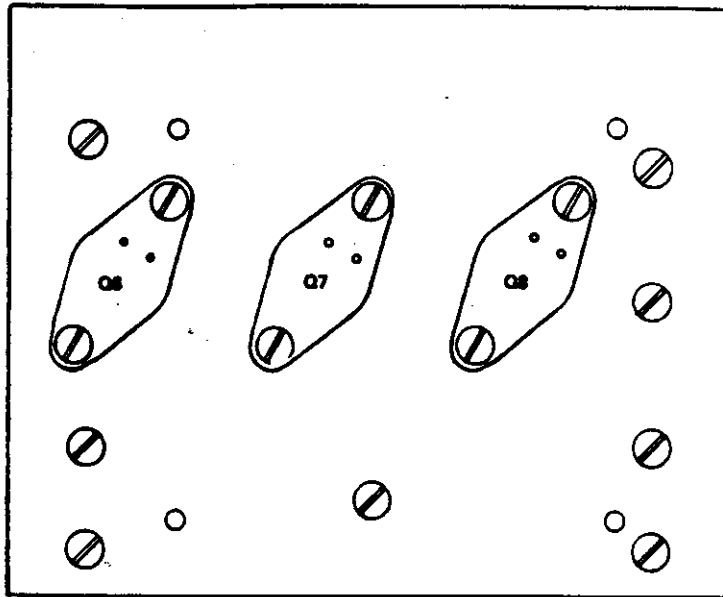

Figure 13 - Heatsink for -6 volt Pass Transistors
3. Heatsink for -6 volt pass transistors. (Figure 13)